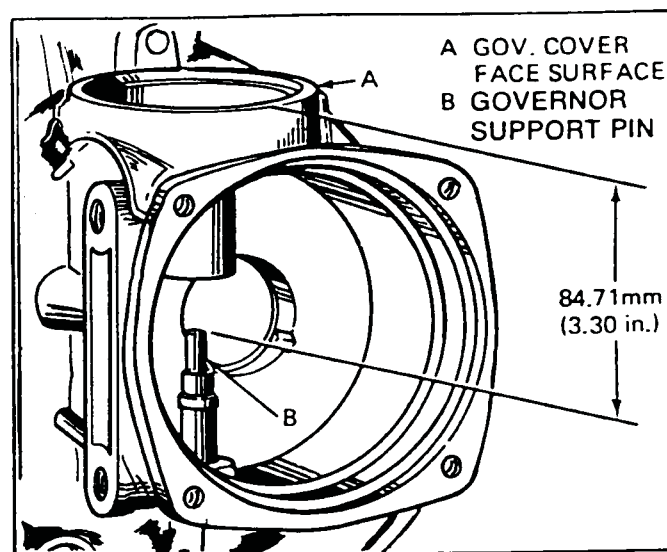

Figure 120
1. Inspect the governor support pin for proper depth (See Figure 120 for proper dimension).